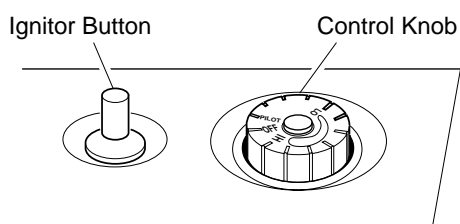

Figure 17 - Control Knob In The OFF Position
4. Wait five (5) minutes to clear out any gas. Then smell for gas, including near the floor. If you smell gas, STOP! Follow "B" in the safety information in column 3, page 11. If you don't smell gas, go to the next step.
5. Turn control knob counterclockwise to the PILOT position. Press in control knob for five (5) seconds (see Figure 17).